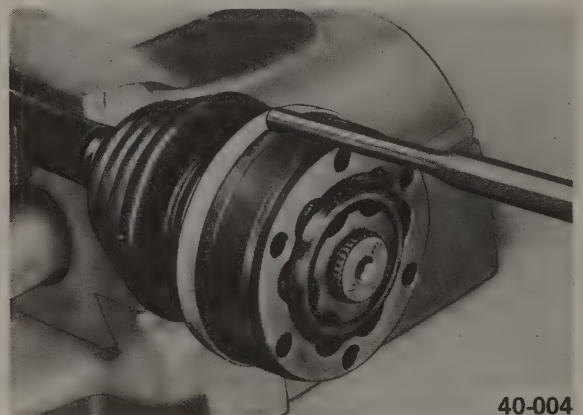

Fig. 5-8. Driving off CV joint protective cap with drift and hammer.
2. Drive the protective cap off of the outer ring of the joint, as shown in Fig. 5-8, and fold the boot away from the joint, inside out over the axle shaft.